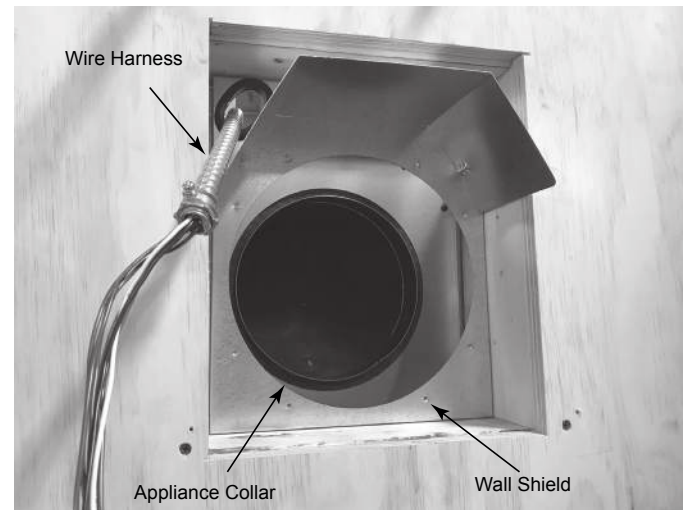

Figure 7.11
**Note:** The appliance, wire harness, vent, wall shields and firestops must be located, supported, and secured prior to mounting the termination cap. See Figure 7.11.